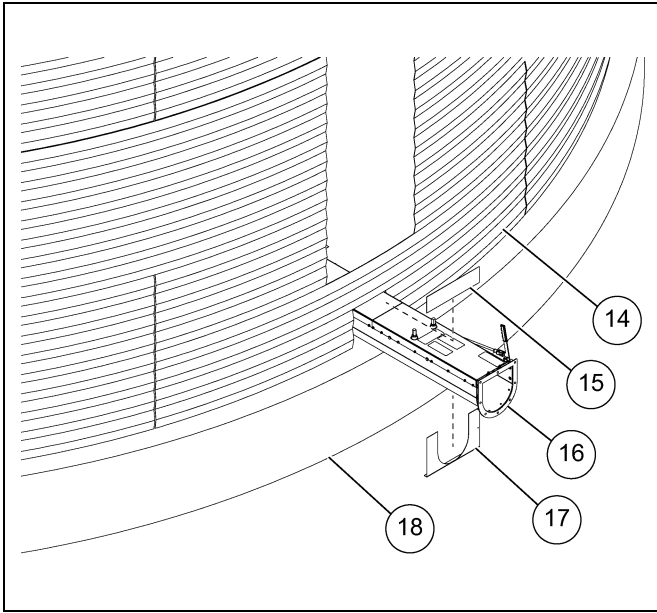
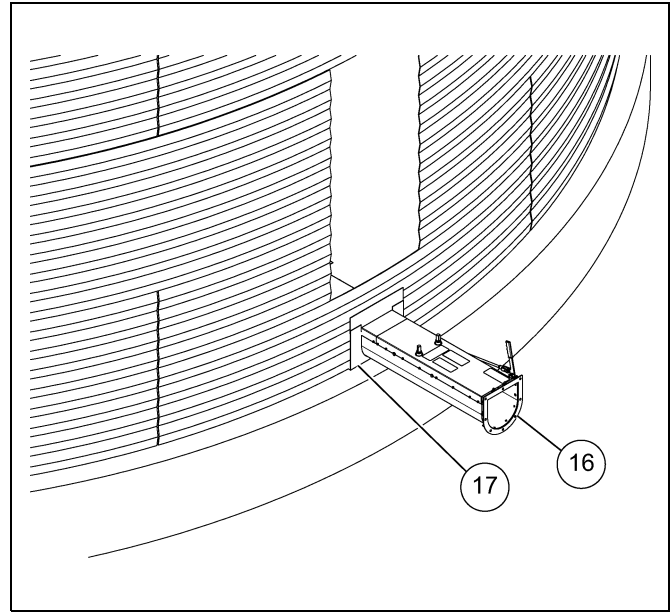

Figure 4H
Figure 4I
7. Install bin wall flange as shown in *Figure 4H* and *Figure 4I*.